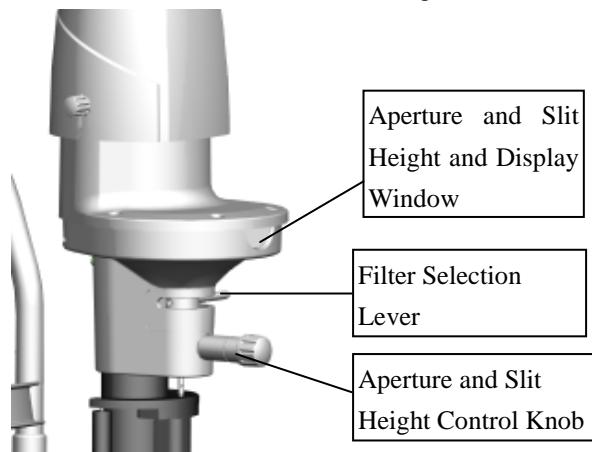
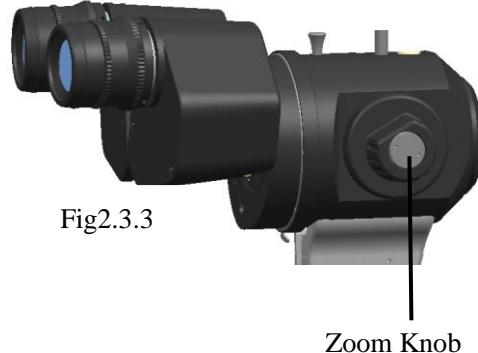

Fig2.3.2
Fig2.3.3
4. Check whether the moving parts such as the slit and aperture width knob, the aperture adjustment knob, the filter selection lever (see Figure 2.3.2), the zoom knob (see Figure 2.3.3), and the joystick (see Figure 2.3.4) operate normally.